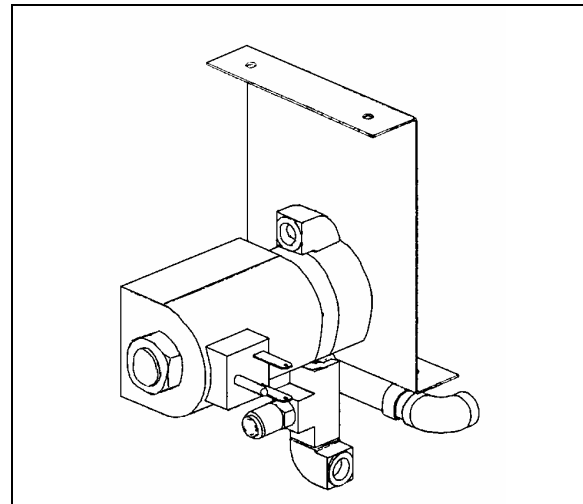

FIGURE 33: AIR HORN VALVE
maintenance after raising the appropriate access panel at the front of the coach (refer to figure 33).
Depress the upper windshield wiper switch located on the dashboard L.H. side to the first position for intermittent wiping, and to the second position for continuous wiping (item 1, fig. 33).
8. Connect the windshield washer tubing at the base of the wiper arm (Fig. 33 and 37);
5. Install the right wiper arm in its normal position (in the middle of the windshield (Fig. 33)). Refer to paragraph "9.2.1 Sweep Adjustment".
3. Install the left wiper arm in its normal position (in the middle of the windshield (Fig. 33)). Refer to paragraph "10.2.1 Sweep Adjustment".
5. Install the right wiper arm in its normal position (in the middle of the windshield (Fig. 33)). Refer to paragraph "10.2.1 Sweep Adjustment".
The lower windshield wiper motor is located at lower front of the vehicle, behind the defroster panel. Refer to figure 33 for motor location.